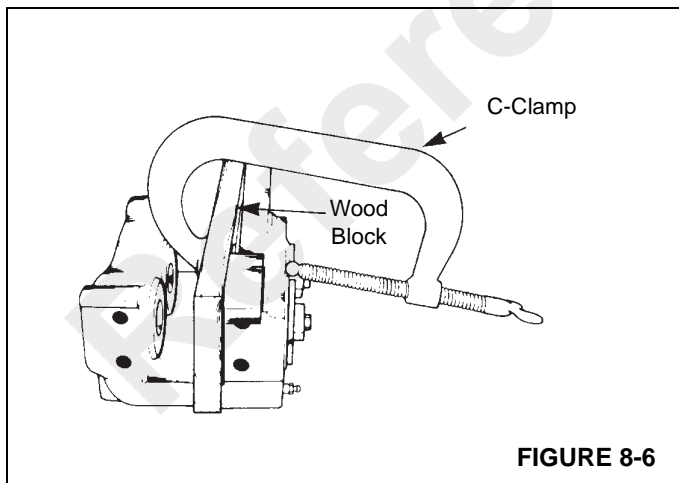

FIGURE 8-6
- a. Use a C-clamp to hold a 12.7 mm (0.5 in) block of wood against two pistons on the mounting side of the housing. Ensure the C-clamp is not in the area in front of the piston bore (Figure 8-6).